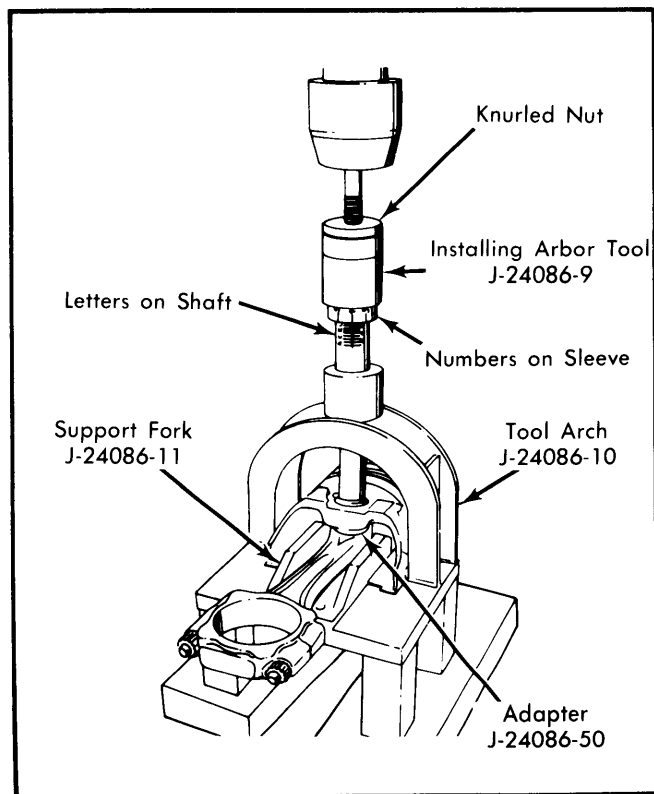

Fig. 8 Piston Pin Installation Tools
3) Adjust installing arbor (J-24086-9) to "12" by turning numbered sleeve on lettered shaft. Turn knurled nut to lock numbered sleeve. See Fig. 8.